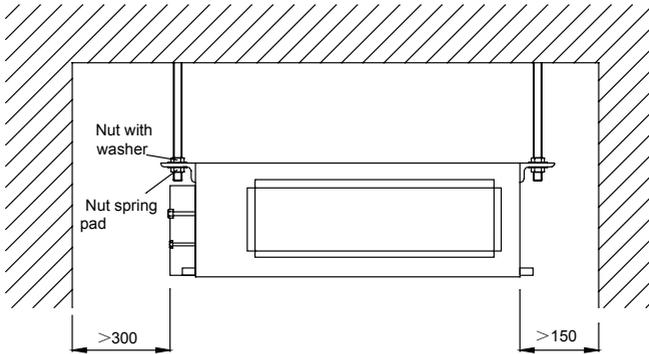

Fig.3
- (1) Ensure that the latches at top are firm enough to stand the weight of unit.
- (2) Convenience to drain by the drain hose.
- (3) There is no obstacle around intake and outlet vent to keep good ventilation.
- (4) Ensure the installation distance of the indoor unit as shown in fig.3 and also the necessary space for care and maintenance.
- (5) Keep it far from any heater, leakage of combustible gas and place with fume.
- (6) This unit is the cassette type (hidden in the ceiling), as shown in fig.3.
- (7) Indoor unit, outdoor unit, power cord, and connection pipe should keep a distance of at least 1m from the TV set, radio, so as to prevent incurring image interference and noise on the above mentioned home appliance. (If the electric wave is strong, even though they are kept 1m apart, noise would still happen.)